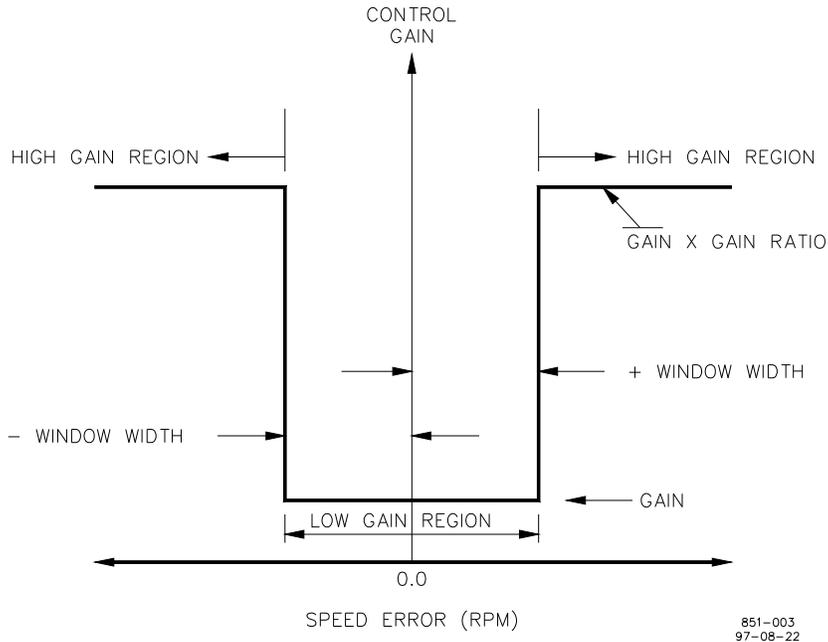

Figure 3-2. Control Gain as a Function of Speed Error
4. **GAIN RATIO** is the ratio of the Gain setting at steady state to the Gain setting during transient conditions. The Gain Ratio operates in conjunction with the Window Width and Gain adjustments by multiplying the Gain set point by the Gain Ratio when the speed error is greater than the Window Width. This makes the control dynamics fast enough to minimize engine-speed overshoot on start-up and to reduce the magnitude of speed error when loads are changing. This allows a lower gain at steady state for better stability and reduced steady-state actuator linkage movement. (See Figure 3-2.)
5. **WINDOW WIDTH** is the magnitude (in rpm) of a speed error at which the control automatically switches to fast response. The control uses the absolute value of speed error to make this switch. A Window Width too narrow will result in cycling that always factors in the Gain Ratio. (See Figure 3-2.)